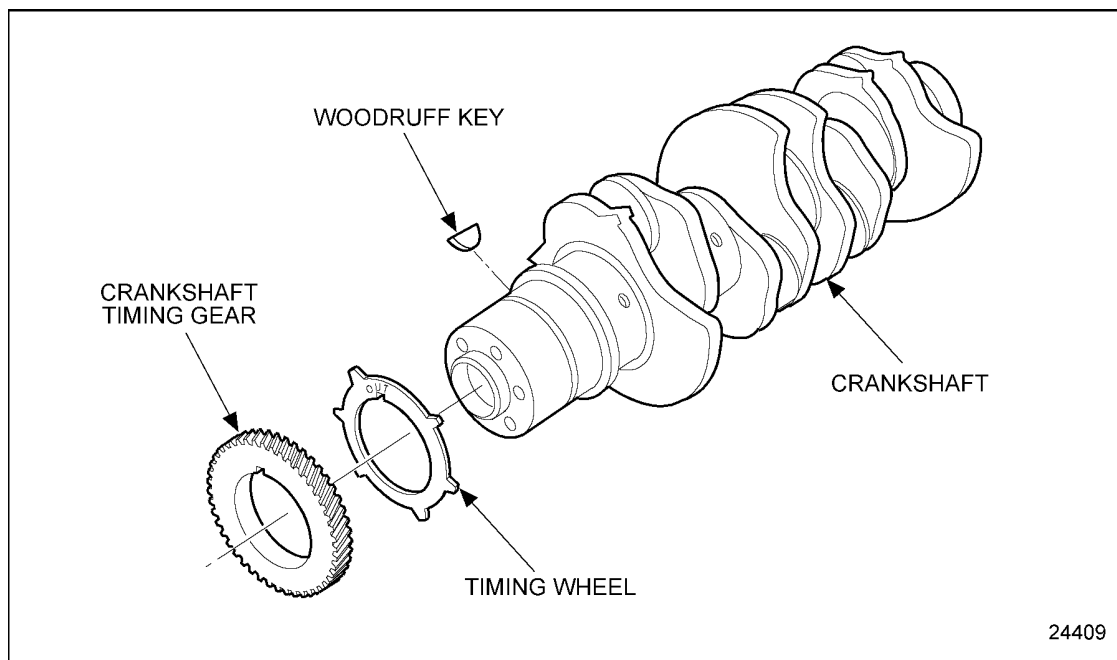

Figure 1-362 Non-Lock Key Installation
2. If removed, install the key to the keyway. Tap the key with a plastic mallet or brass hammer to seat. See Figure 1-362.